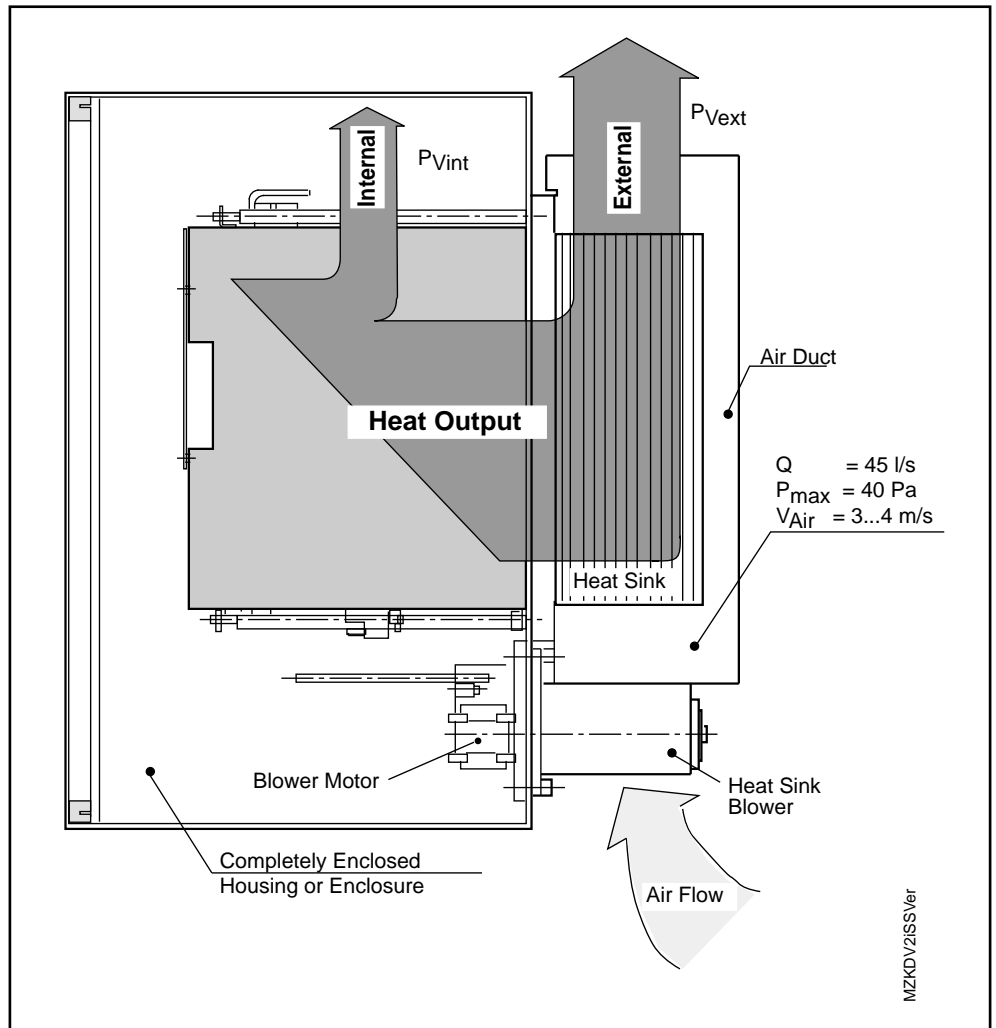

Fig. 2.16. Installation of KDV power supply modules in enclosures.
- Heat Losses in the Enclosure:* The KDV 4.1 achieves a high continuous output with low heat losses in the enclosure. The unit is designed to be installed with the heatsink extending through an opening in the back panel of the enclosure. Only about 20% of the total heat loss remains in the enclosure. The installation set provided with the unit can be used to seal off the opening to achieve an IP 65 protection classification. The costs of enclosing ventilation and cooling are significantly reduced when K-series power supplies are used. (See Fig. 2.16.)
- Heat Losses in the Enclosure:* The KVR 1.2 achieves a high continuous output with low heat losses in the enclosure. The unit is designed to be installed with the heatsink extending through an opening in the back panel of the enclosure. Only about 20% of the total heat loss remains in the enclosure. The installation kit provided with the unit can be used to seal off the opening to achieve an IP 65 protection classification. The costs of enclosing ventilation and cooling are significantly reduced when K-series power supplies are used. (See Fig. 2.16.)